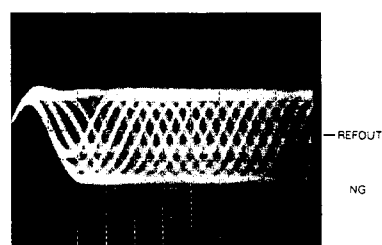

Fig. 27
2. Observe RFO in respect to REFOUT in the oscilloscope, and adjust VR355(FEB) to obtain maximum RF and optimum eye pattern. (See Fig. 27, 28)